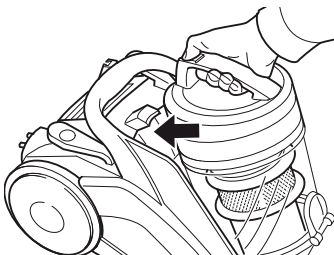

Fig. 23
8. Place the dust container onto the vacuum cleaner. Press the dust container firmly into its mounting bracket (Fig. 23), until it audibly snaps into place.